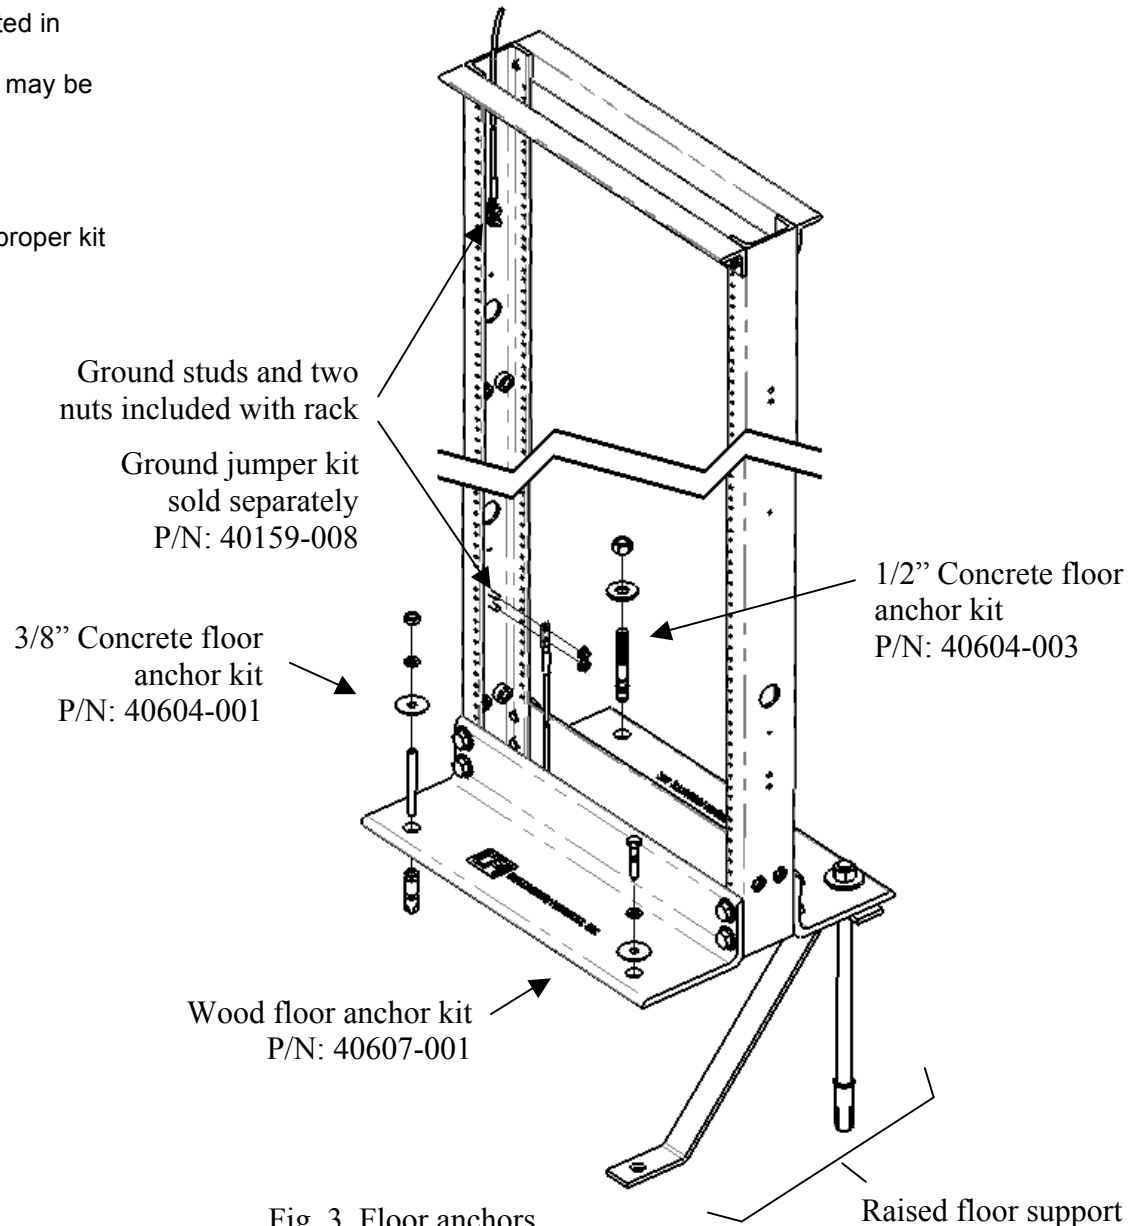

Fig. 3, Floor anchors
- 6) The rack must be securely anchored to the floor. Floor mounting kits may be ordered from CPI as follows. Reference Figure 3